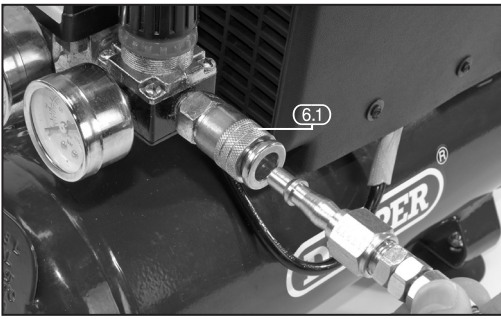

FIG. 5
7.1 BASIC COMPRESSOR OPERATION – FIG. 5
- Connect the air line to the compressor by pulling back the collar (6.1) on the air outlet quick coupling (6) and inserting the corresponding air coupling fitted on the air line. Release the collar so it slides back in place to secure the air coupling.